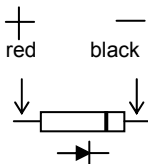

Fig. 3
7. When the leads are connected with the polarity shown in Fig. 3, a forward current flow is established and a good diode will produce a reading on the display. If the diode is defective, "000" (short circuit) or "1" (open circuit) will be displayed. When the leads are connected with the polarity shown in Fig. 4, a reverse check on the diode is done. A good diode will show "1" on the display. If the diode is defective, "000" will be displayed. A diode test should include both forward and reverse current flow check.